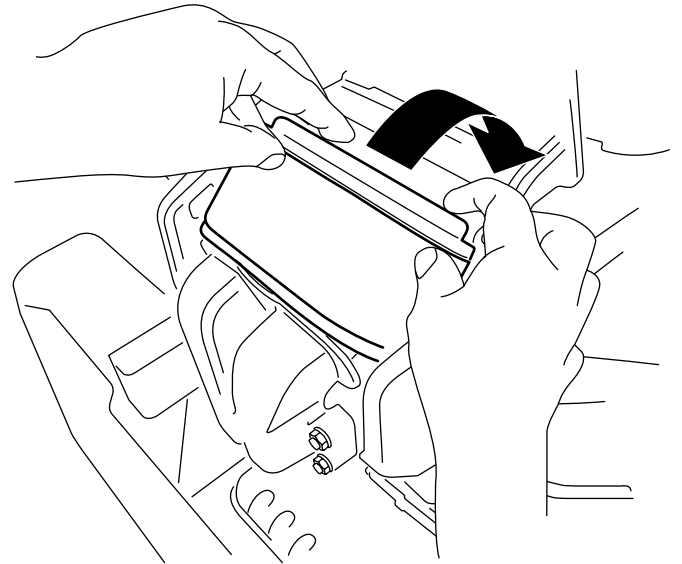

Figure 43
3. Rotate the filter down into the chamber and fully seat it against the manifold (Figure 43).